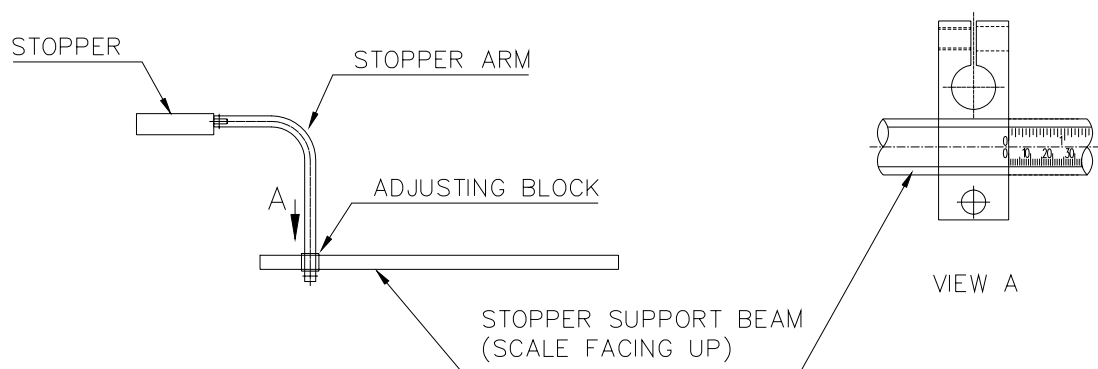
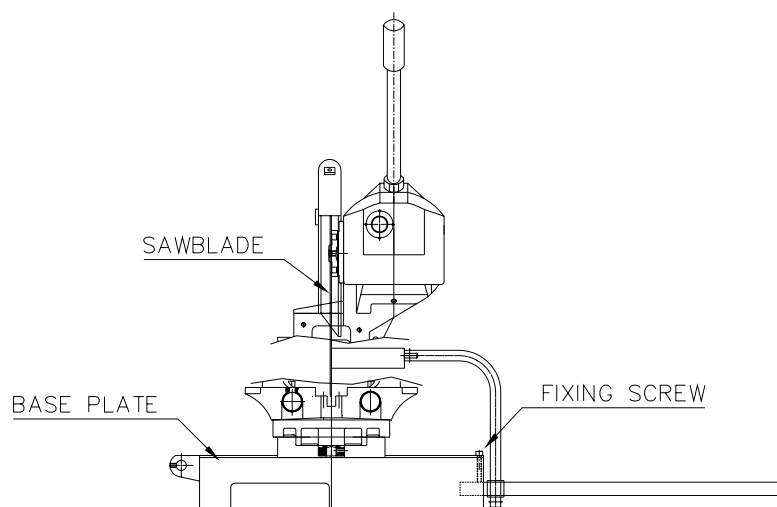

FIGURE 1
FIGURE 2
- (1) Mount the stopper arm at the “0” point on the stopper support beam as illustrated on following figure1.
- (2) Put the stopper support beam into the hole in the base plate.
- (3) Fix the stopper support beam when the stopper is just touching the sawblade as illustrated on following figure2.